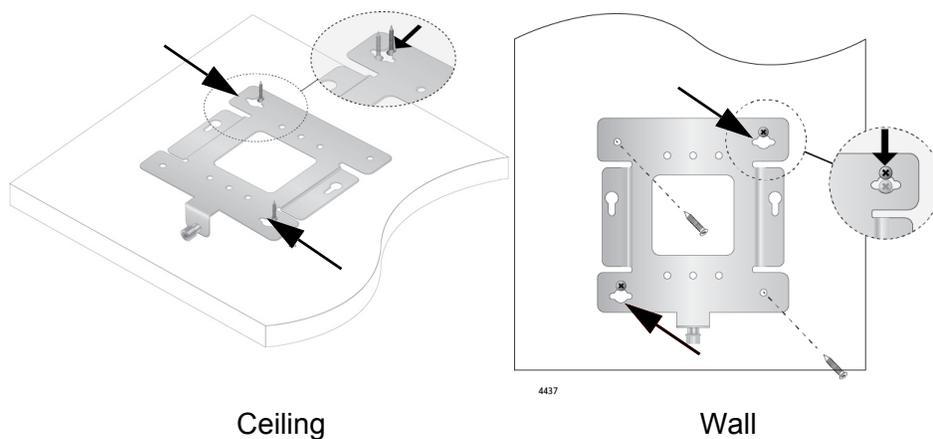

Figure 9. Mount Bracket On Screws Using Key-Hole Slots
- Insert the openings of the bracket key-holes under the two screw heads and slide the bracket into narrow end of the key-hole slot opening. Refer to arrows in Figure 9. Tighten the screws snugly onto the bracket.